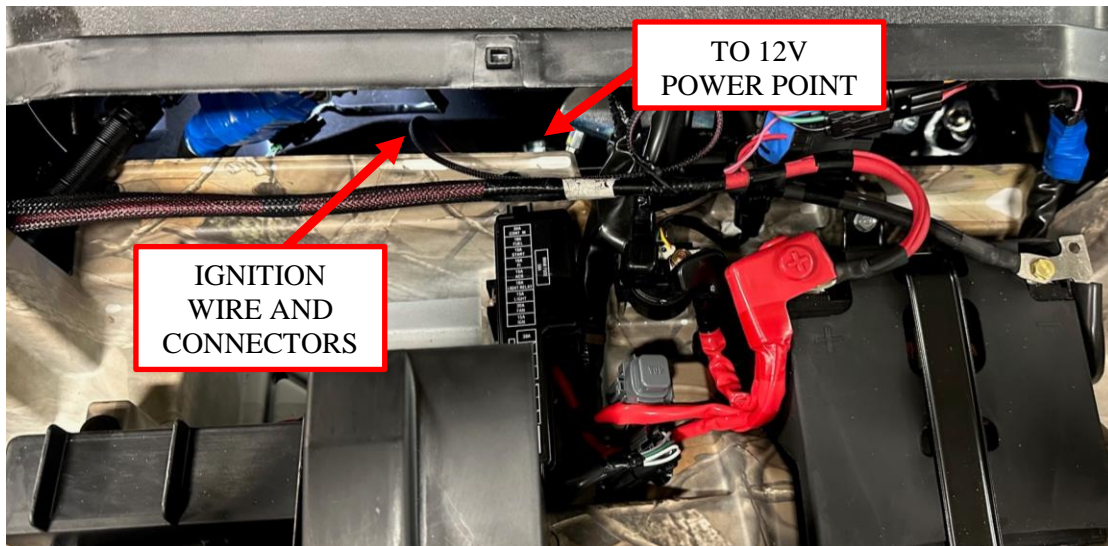
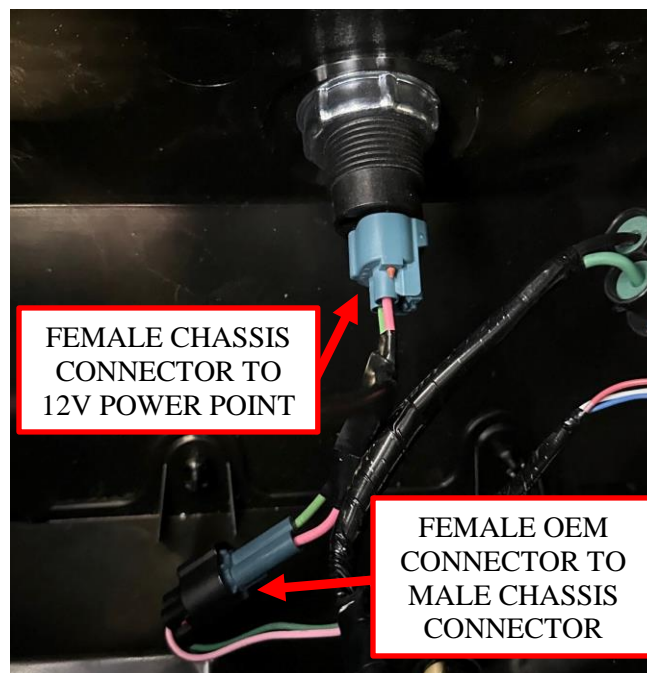

Figure 20: Ignition wire and connector routing.
Figure 21: Connection location for chassis harness connectors.
16. Run the pink ignition wire, with the two attached connectors, to the front of the upper firewall just below the battery area. They will connect to the 12V power point fastened through the firewall. See Figure 20.
17. The female ignition connector will replace the OEM connector attached to the back of the accessory cigarette lighter as shown in Figure 21. This connection point is only accessible through the gap at the rear of the under hood battery compartment shown in Figure 20. (Figure 21 from gap opening, directly above 12V power point, shown for a better view). The male connector on the chassis harness can then be connected to the OEM female connector.